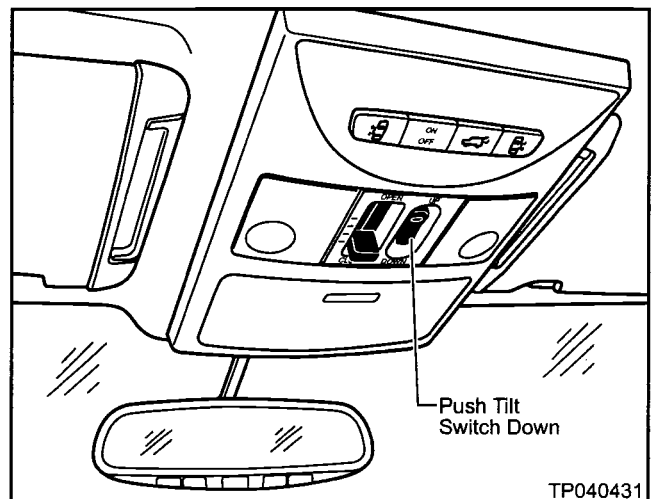

Figure 24
- a. Push the Sunroof Tilt Switch in the tilt DOWN position (repeat as necessary) until the Sunroof is fully closed. See Figure 24.
- b. Then, push and hold the Sunroof Tilt Switch (see Figure 24) in the tilt DOWN position for more than 2 seconds.